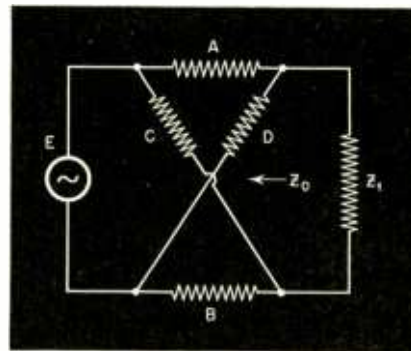

FIG. 1
**Problem:** Apply Thevenin's Theorem to determine current that will flow through  $Z_1$  (Fig. 1) if it terminates a